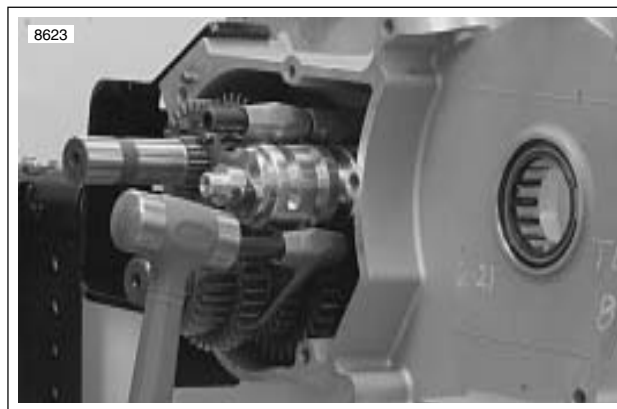

Figure 6-86. Installing Shift Fork Shafts
3. See Figure 6-86. Place the 3rd and 5th gear shifter fork on the appropriate mainshaft sliding gear and install the shifter fork shaft through the two installed shifter forks and into the left case half.
See Figure 6-86. Install shifter fork shafts in the left case half by lightly tapping on the end with a brass hammer until seated in bore.